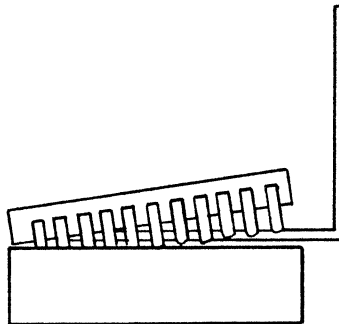

Figure 1-2. Removing the 8088
2. Using the extraction tool provided, slip the tool under the 8088 processor and pry up gently to remove the processor from the socket (Figure 1-2). Be careful not to bend the 8088 pins.